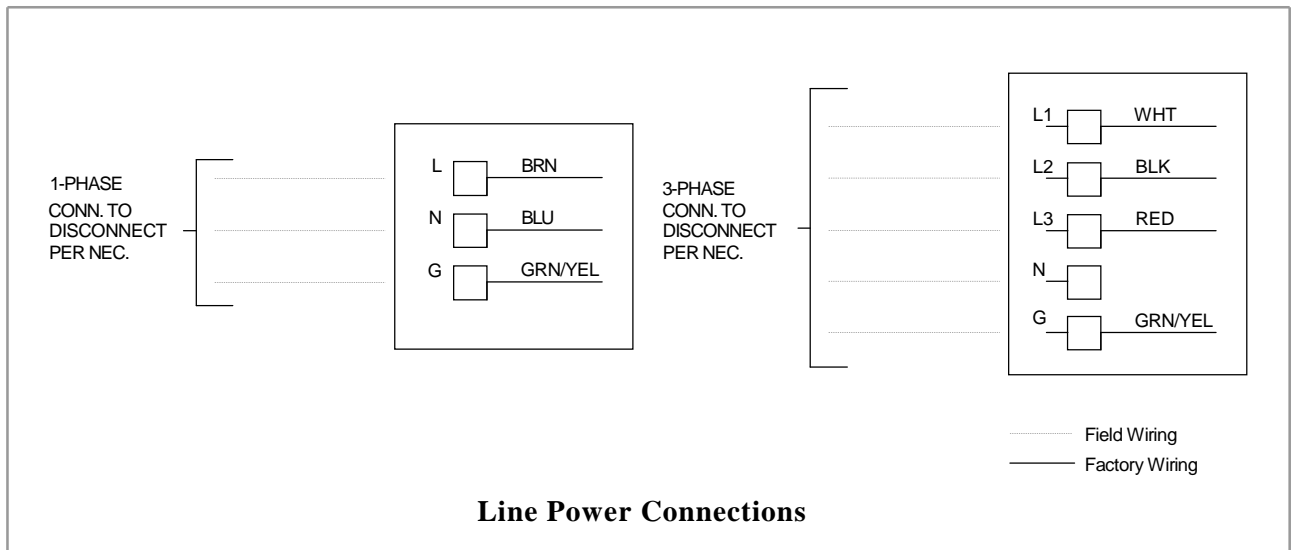

Figure 5
- Route power wires through opening below the access cover and connect in unit control box as show on unit wiring diagram and Figure 5.